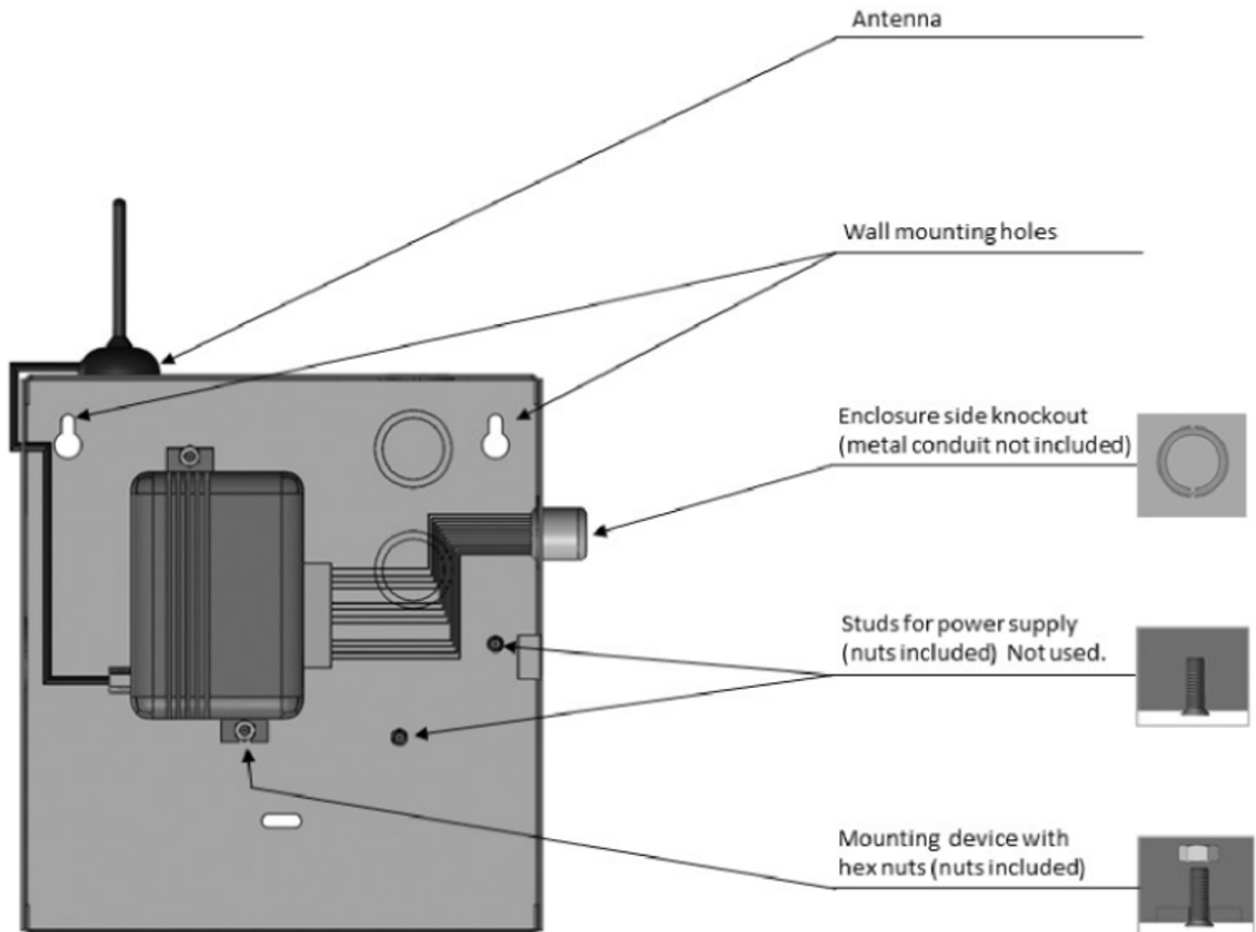

Figure 5.1: CLSS Pathway Inside the Enclosure
- Mount the communicator inside an enclosure, for example HW-AV-ENC, as shown in Figure 5.1 below.
5. If using the HW-AV-ENC enclosure, mount it onto the two mounting holes as in Figure 5.1 and secure it with the hardware supplied with the enclosure.